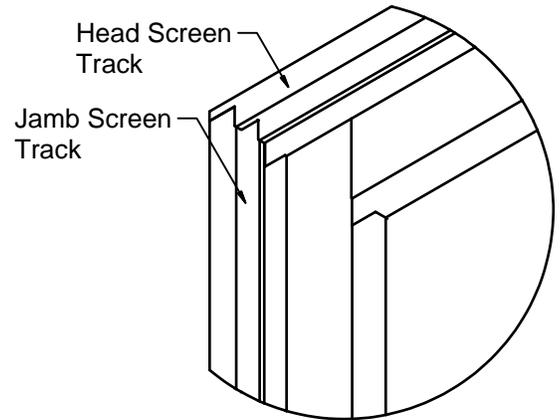

Figure 16.
Step 5. (Screen Track Installation Cont.) Repeat steps 3 and 4 for each jamb screen track. Verify that each jamb corner mates properly with the head and sill screen tracks before fastening to the rough opening (See Figure 16).